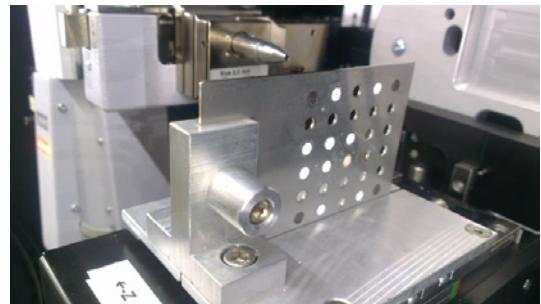

Figure 1. Well plate sample holder mounted on 3-axis translation stage
Figure 1. Scattering curves from the new MetalJet-D2 X-ray source (solid line) and the previous Cu sealed tube (dotted lines). The curves were corrected for collection time and the use of an Al foil to attenuate the beam from the MetalJet-D2 source (to prevent saturation of the detector). The curves are of samples of SBA-15 (red) and SBA-15 that has been doped with palladium nanoparticles (blue).
The scattering curves shown in Figure 1 have been indexed for the observed reflections from the hexagonal ordering of the pore structure. The peaks observed from the MetalJet-D2 source show a much improved signal to noise ratio even with the reduced collection time. The (100) reflections also show sharper profiles again related to the improved counting statistics on the new instrument. The sample-detector distance has been increased to 107 cm and along with the shorter wavelength of the gallium anode measurement is possible down to $q = 0.0114 \text{ Å}^{-1}$.